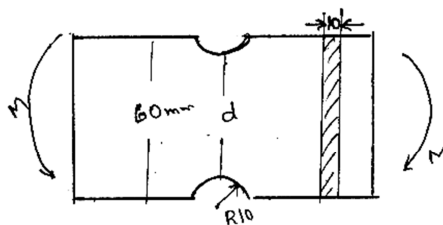

Fig. 2.
- 3 a. A notched flat plate as shown in Fig. 2 is subjected to bending moment of 10 Nm. Determine the maximum stress induced in the member by taking the stress concentration into accounts. 7